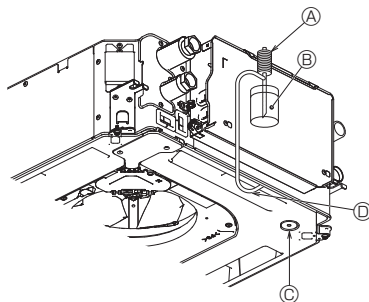

Fig. 7-10
- Point the remote controller towards the indoor unit receiver while following steps ③ to ⑧.
7.4. Check of drainage (Fig. 7-10)